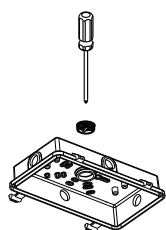

Figure 2-2
- 2.Loosen the 3/4 plug on the driver box cover by screwdriver; Figure 2-2